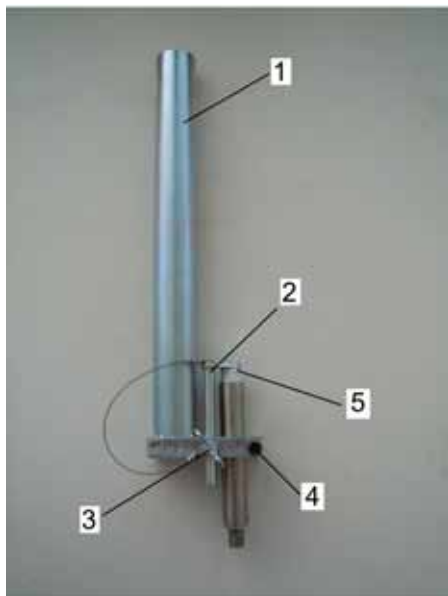

Fig. 96: Tube type sensor bracket with tool
3. Place the tool (Fig. 96/2 ,101/2) into the foreseen hole of the sensor bracket (Fig. 96/1,101/1).
4. Slide down the tool, until it rests on the sensor tip (Fig. 96/5, 101/5).
5. Fix the tool by using the thumbscrew (Fig. 96/3,101/3).
6. Make sure that the tool is still in contact with the sensor (Fig. 96/5, 101/5).
8. Loosen the clamping bolt of the sensor (Fig. 96/4,101/4) and remove the sensor.
9. Insert a new sensor and make sure that it is in contact with the contact plate of the tool (Fig. 96/5,101/5).
13. Remove the clamping bolt (Fig. 96/3,101/3) and remove the tool (Fig. 96/2,101/2).